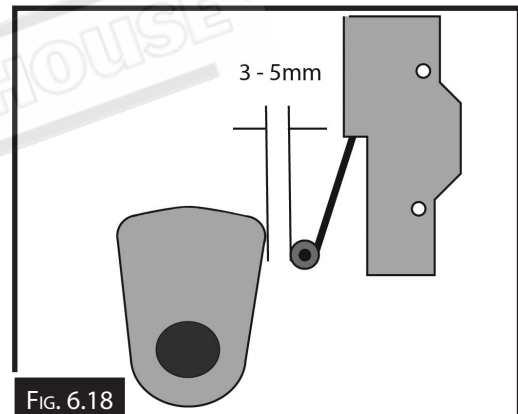

FIG. 6.18
4. Released the foot pedal. There should be an approximate 3 - 5mm gap between the switch roller and the cam lobe. (Fig. 6.18)